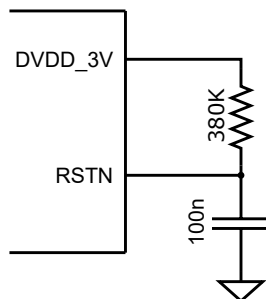

Figure 4: Alternative reset network.
- Connect CSN, SCK, MOSI, MISO and IRQ to your MCU. Use of RSTN and/or SHUTDOWN is optional. If not used, connect SHUTDOWN to GND, and RSTN to an RC network as shown in Figure 4.